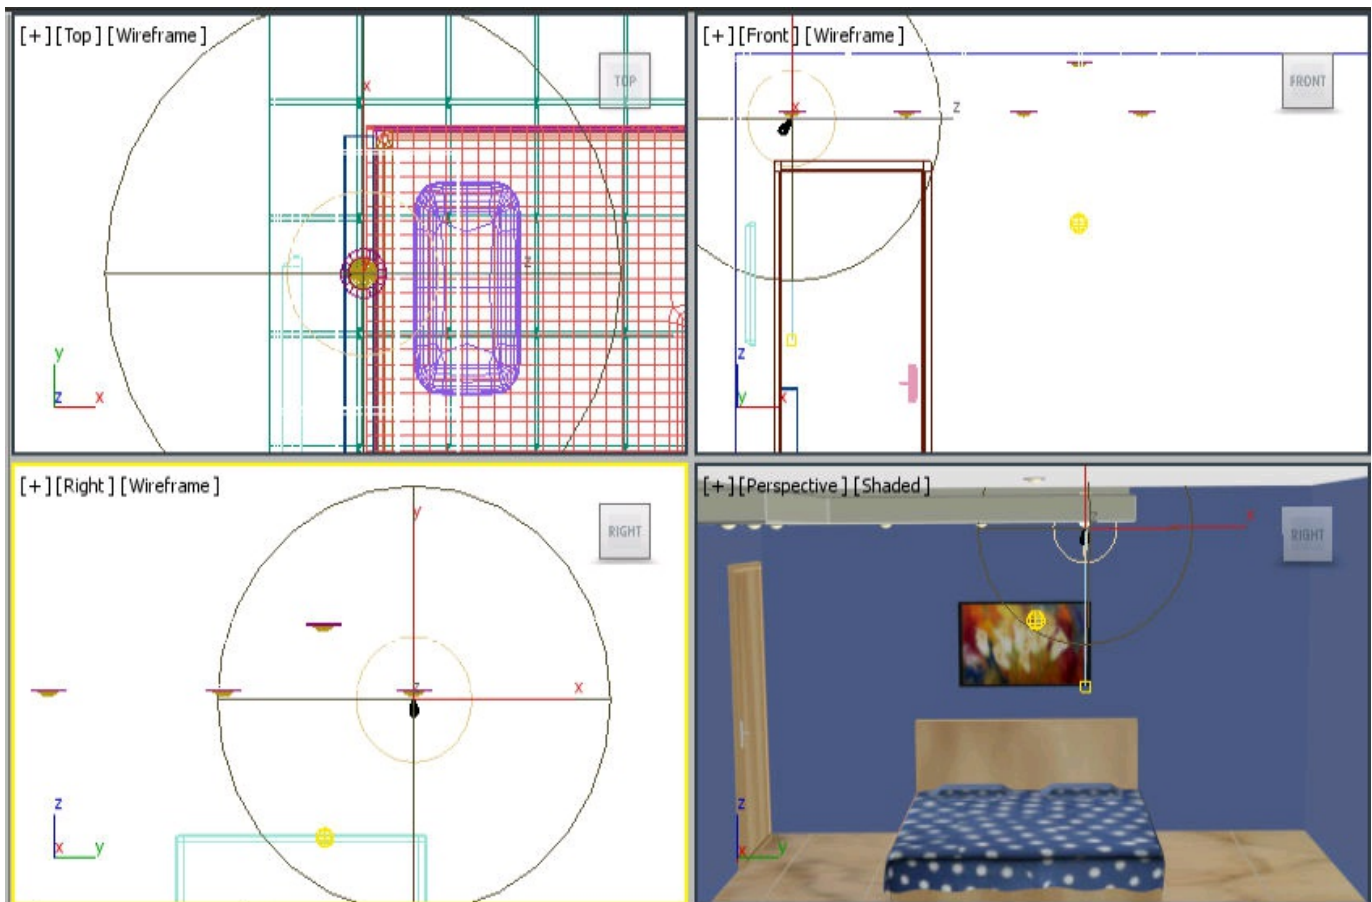

Figure 13-75 The spot light1 rotated
5. Choose the **< Choose Photometric File >** button from the **Distribution (Photometric Web)** rollout; the **Open a Photometric Web File** dialog box is displayed. As the project folder is already set, the *photometric* folder of this project is displayed in the **Look in** drop-down list. Next, select the **1.ies** file from this dialog box and then choose the **Open** button; the label of the button is replaced by the name of the selected file. Also, the lighting pattern is displayed in the window located above this button. Next, set the value in the **Y Rotation** spinner to rotate *spot light1*, as shown in Figure 13-75.